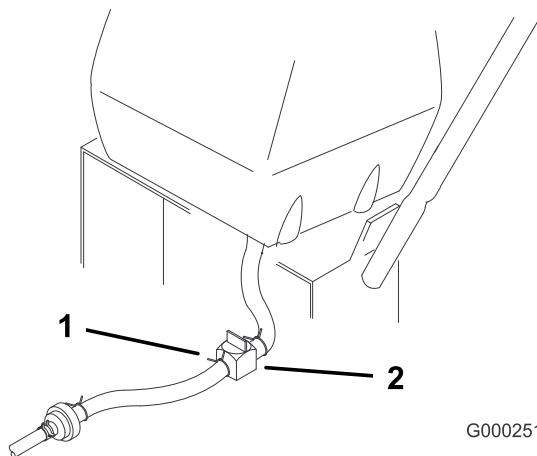

Figure 36
2. Close the fuel shut-off valve at the fuel tank (Figure 36).
3. Squeeze the ends of the hose clamp together and slide it up the fuel line away from fuel filter (Figure 36).
4. Pull the fuel line off the fuel filter (Figure 36). Open the fuel shut-off valve and allow the gasoline to drain into a gas can or drain pan.
3. Close fuel shut-off valve at fuel tank (Figure 36).
7. Open fuel shut-off valve at fuel tank (Figure 36).